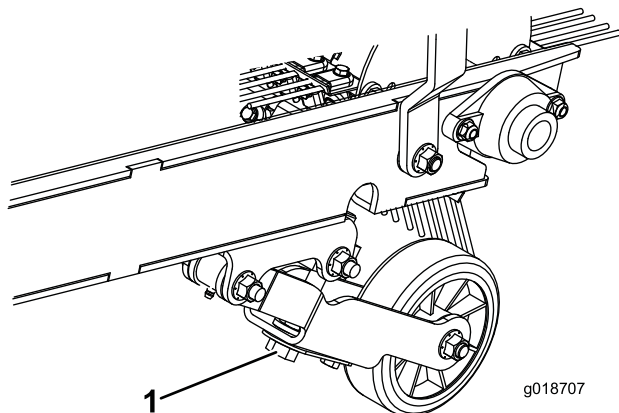

Figure 10
2. Turn the depth adjustment bolt until the rake slightly contacts the top of the turf grass. If a broom is installed, slight contact should be made with the surface. When the broom is operating, the contact width surface should be about 25.4 mm (1 inch) wide across the entire length of the broom (Figure 10).